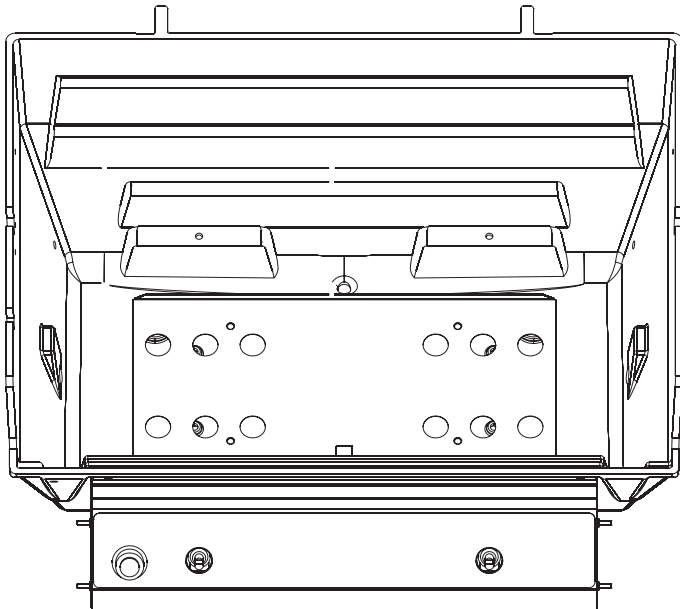

Figure 23
2. Place wind deflector (flange side up) onto four raised bosses located on the interior bottom of the grill. **See Figure 23.**